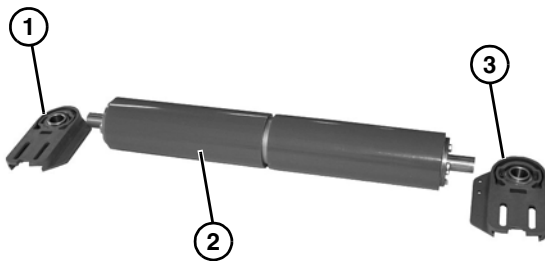

Figure 46
- Slide the head plate with bearing (Figure 46, item 1) off the shaft (Figure 46, item 2).
- Repeat for opposite side head plate (Figure 46, item 3).